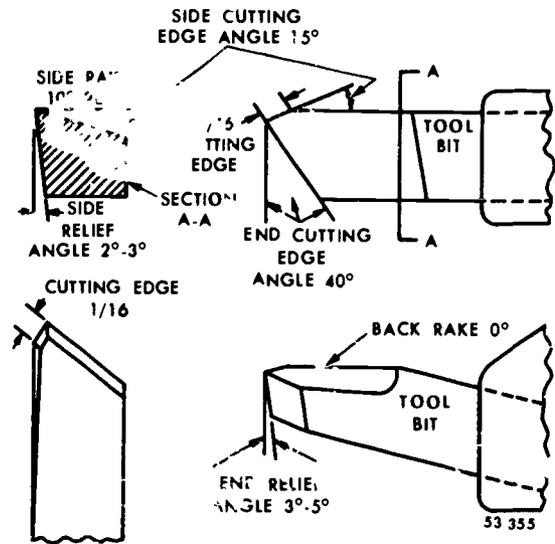
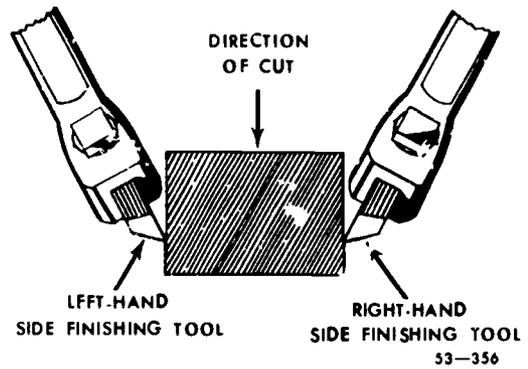
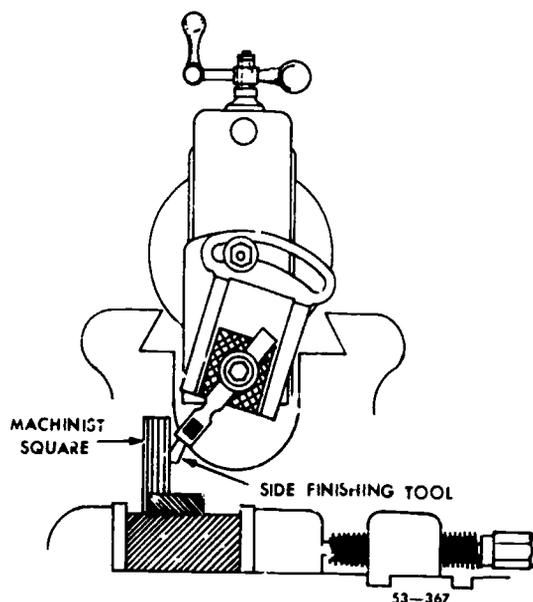

Figure 35. Side finishing tool angles.
Figure 36. Side finishing tools
Figure 47. Aligning cutting edge with a machinist square.
h. Side finishing. The *side-finishing tools*, shown in figure 35, are ground as right-hand and left-hand tools and are used to finish vertical surfaces. You can also use them for cutting or finishing small horizontal shoulders after you have taken a vertical cut. Figure 36 shows how to position right-hand and left-hand side-finishing tools.
4-11. Another method of machining vertical surfaces is to use a side finishing tool. This type of tool is used after the vertical surface has been roughed out with a roundnose tool, leaving material for finishing cuts. The top of the clapper box is swung away from the surface that is to be finished. Then mount a left-hand side finishing tool in a straight toolholder, if you are to finish a left-hand shoulder. The toolholder should be positioned in the toolpost so that the  $\frac{1}{16}$  inch portion of the tool's cutting edge, as shown in figure 35, is parallel to the surface to be finished. The best way to position the cutting edge is with a machinist's square, as shown in figure 47. Set the machine to the proper length of stroke. Reduce the CFS to about 30 feet per minute to protect the small cutting edge. With the tip of the tool touching the bottom surface of the corner or shoulder, set the vertical feed dial at zero. NOTE: Omit this step when you use the side-finishing tool to finish the ends of the work. To plane wide, deep grooves, leave 0.005 inch